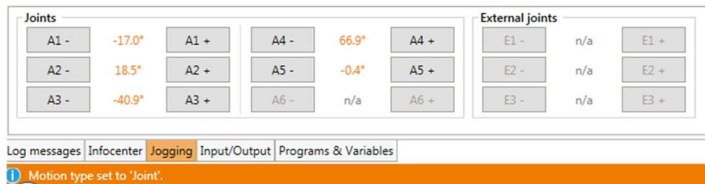

Figure 7.7: The software buttons for "Joint" movements in "Jogging" tab. In both cartesian modes, the buttons change to X, Y, Z, A, B and C.
- "Joint": A click on A1 to A6 moves the corresponding robot axis (if available). E1-E3 move the external joints. This could be a **linear or rotational axis** (Figure 7.7).